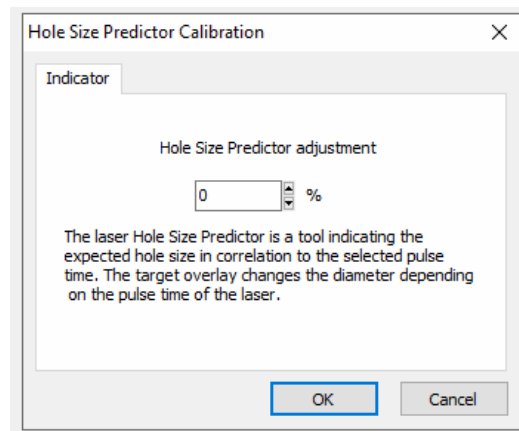

Fig. 14: Calibration of the Laser Hole Size Predictor at the Video page
The diameter of the Hole Size Predictor can be calibrated in a range between -70% and +200% in steps of 5% relative to the current value (Fig. 14).
12. Select Video - Overlay – Calibrate Hole Size Predictor from the menu and adjust the indicated hole size by clicking the arrows on the right side to overlap with the actual diameter of the drilled hole (Fig. 14).